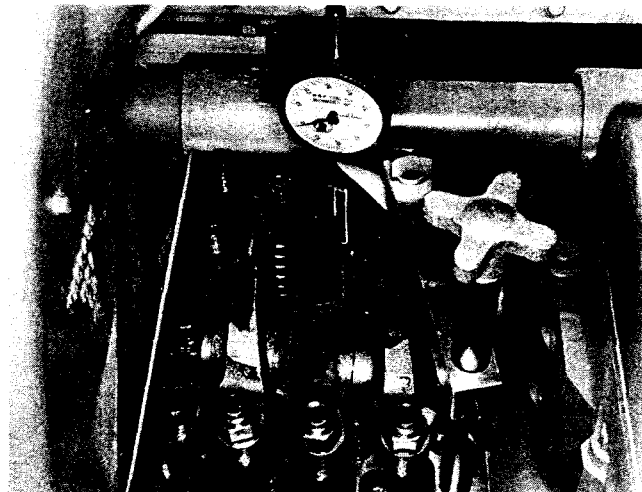

Fig. 2-62, (K21920). Dial indicator in place — extension in contact with plunger
**Note:** Any valve set position may be used as a starting point when adjusting injectors, crossheads and valves. Determine which of the two (2) cylinders indicated have both valves closed (rocker levers free). This cylinder is in position for injector plunger travel, crosshead and valve adjustment.
2. Set up 3375007 Indicator Support on rocker lever housing, of cylinder selected, with indicator extension 3375005 on injector plunger top. Fig. 2-62.